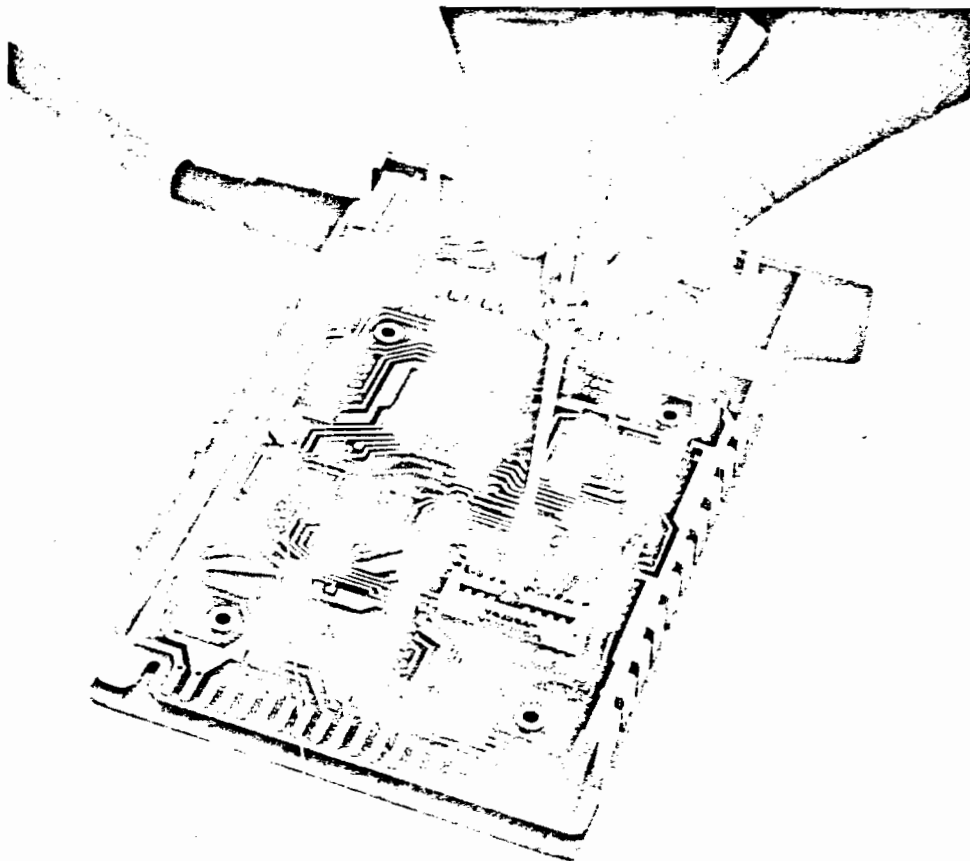

Figure 1-1. Setting the Select Code
3. Raise the hinged cover on the select code switch (see Figure 1-1). Using a small, flat-blade screwdriver, *carefully rotate* the selector tab until it is positioned at the desired select code number. Numbers are printed on the side and on the cover of the switch (switch position '0' is not usable). Before closing the cover, be sure that the slot in the selector tab is at a right angle to the length of the switch.